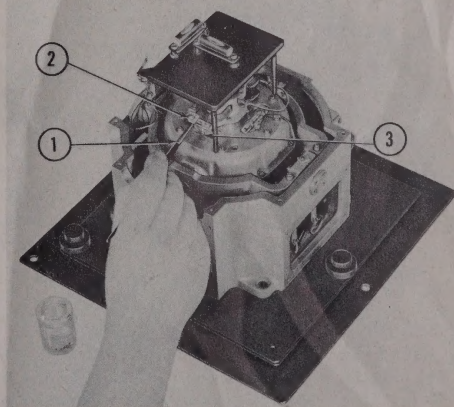

Figure 205 — Cementing Level Vials in Place
(c) (See figure 205.) When sure that bubble in level vial is exactly centered and graduation lines are on top and the center graduation exactly over the locking screw, tighten locking screw securely and place a drop of cement on the bracket fingers holding the glass level vials (2) and on the head of the locking screw (3), to make sure that the adjustment will not be disturbed.